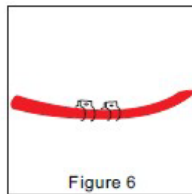

Figure 6
- a. Fix the two CO2 hose clamps on the red CO2 tube (See Figure 6).